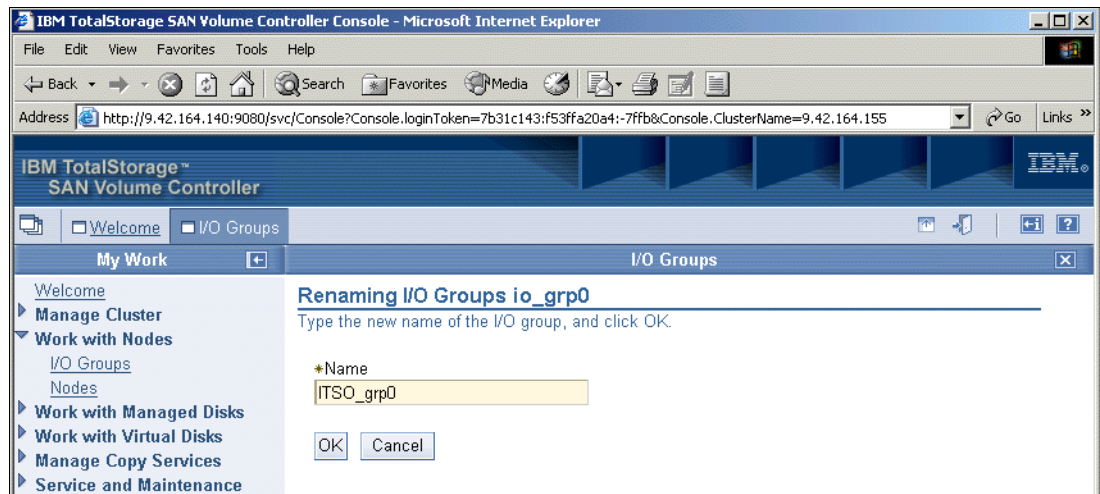

Figure 9-19 Renaming the I/O group
- On the Renaming I/O Groups *I/Ogroupname* panel (*I/Ogroupname* is the I/O group you selected in the previous step), type the new name you want to assign to the I/O group. Click **OK**. See Figure 9-19.